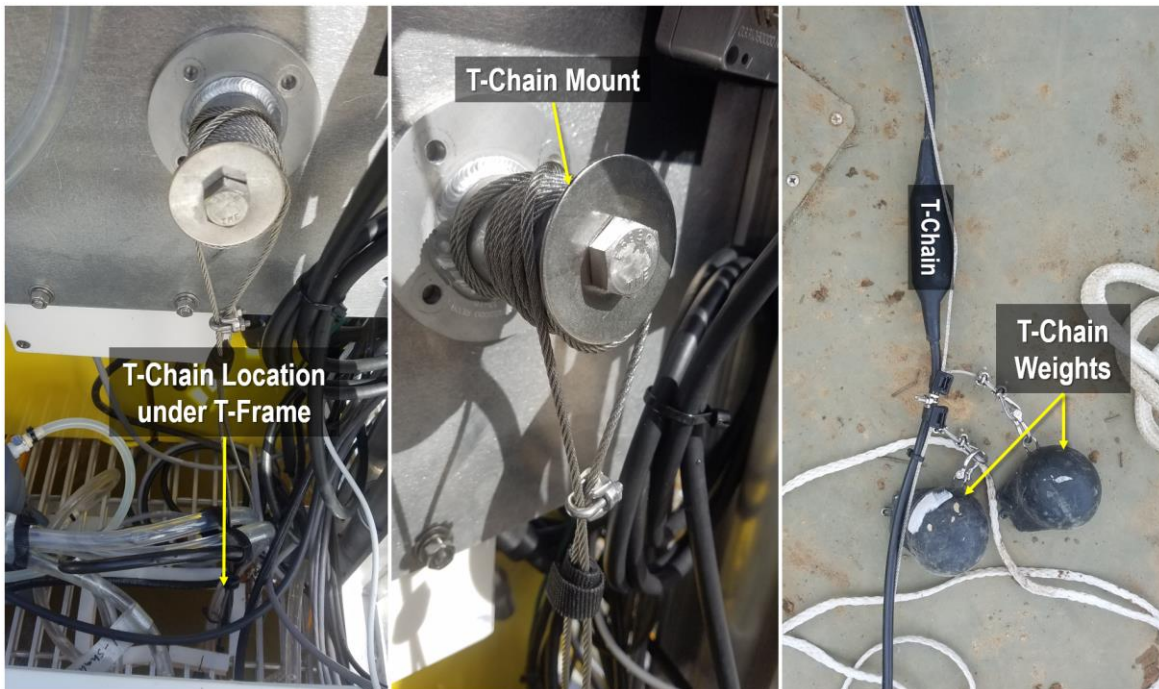

Figure 24. D03 FLNT ONLY: T-Chain Location, Mount and Weight
- f. For D03 FLNT: inspect T-Chain attachment under the T-Frame. This T-Chain is under tension with a small weight to attempt to maintain it linear through river currents. Reference Figure 24. In order to prevent the chain from dragging, the cable is coiled over a post on the T-Frame, which is clamped in place. The T-Chain attaches to the cable with heavy-duty zip ties (regular zip ties may disintegrate/loosen faster over time). This assembly requires adjustments as the river height changes to ensure it does not drag on the bottom of the riverbed.